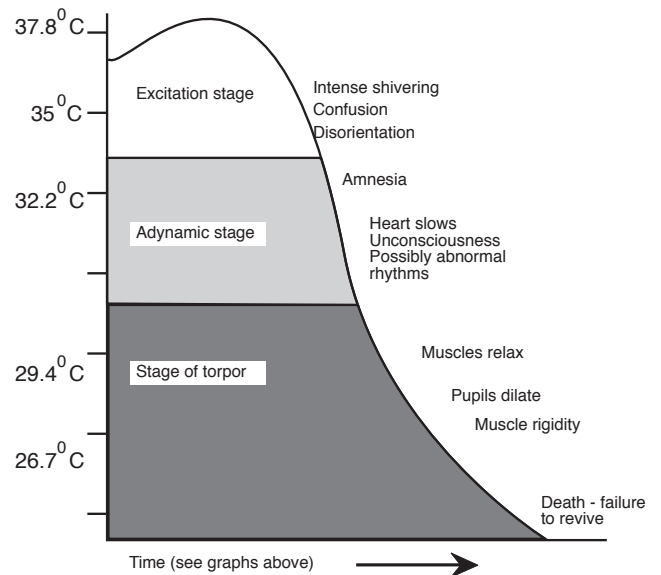

Figure 169.3 Graph for question 3
3. Refer to the graph in Figure 169.3 and answer these questions.